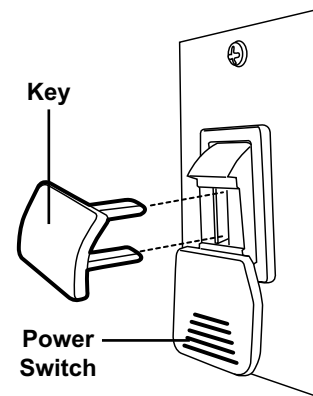

Figure 32
6. To **turn off** the Bandsaw, push the Key down and remove it, see Figure 32.